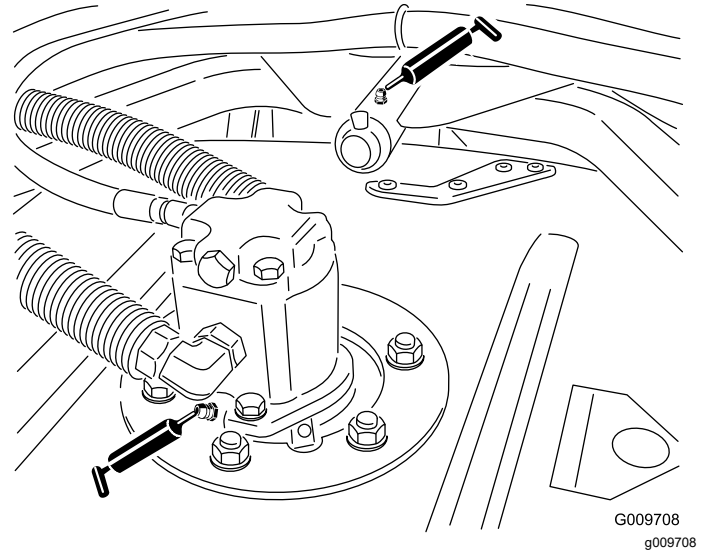

**Figure 38**
- Lift-arm bushings (1 per cutting unit) as shown in Figure 38
- Lift-cylinder bushings (2 per cutting unit) as shown in Figure 38